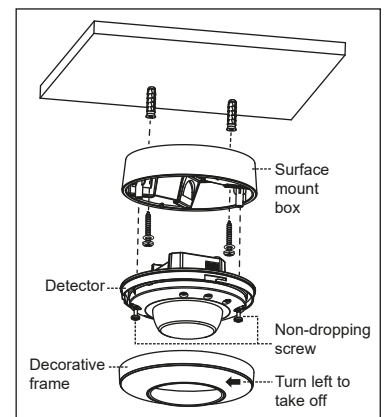

Figure 8
4. Refer to wiring diagrams for correct wiring connection (Fig. 12) and after ETS programming fix the detector into surface mount box with 2pcs non-dropping screws (Fig. 8).